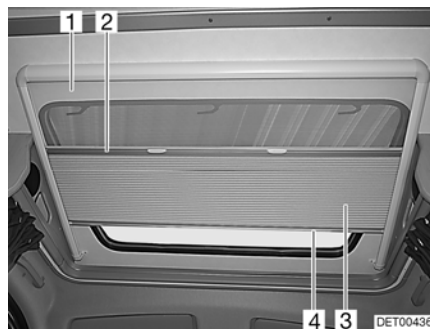

Fig. 71 Roof window
The Roman shade (Fig. 71,3) is permanently connected to the insect screen (Fig. 71,1).
- Hold the Roman shade in the centre of the bottom rod (Fig. 71,4) and carefully draw it downwards.
- Slowly return the Roman shade to its initial position with the bottom rod (Fig. 71,4).
- Hold the insect screen at the centre of the bottom rod (Fig. 71,2) and carefully pull it downward as far as it goes.
- Slowly return the insect screen on the bottom rod of the Roman shade (Fig. 71,4).